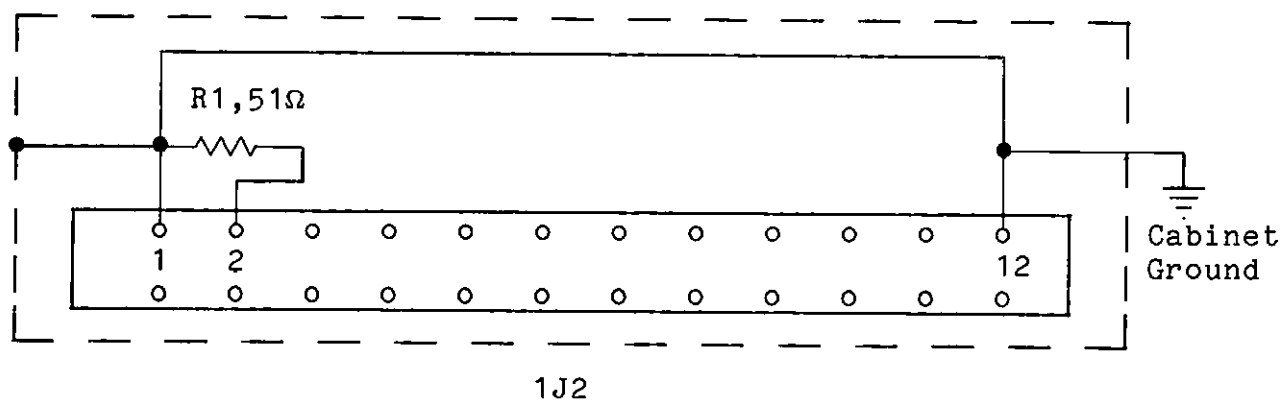

Figure 2.41. TCC Dummy Load Internal Wiring
- (1) Place transmitters in Transmitter Building Control.
- (2) Unplug AC power cord.
- (3) Disconnect all cables.
- (4) Reconnect W0678-7/Interconnect cable to dummy load (see Figure 2.41 for dummy load internal wiring).
- (5) Remove from equipment cabinet.